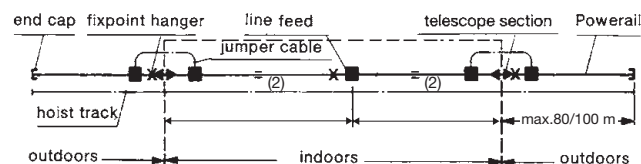

Fig.2
- For passing the powerail from indoor to outdoor, thus preventing the icing of the outside mounted powerail, as the warm air can escape and does not condensate in the powerail (see Fig. 2). – Alternative solution: Anti-condensation section (see page 17). We recommend a heating system for the outdoor section for extreme winter conditions (see page 16).
In case of transfers to outdoor the main feed can be inside. In this case will be connecting boxes on the left and right hand side of the telescope section installed. This boxes are connected by flexible cables. (see fig. 2).